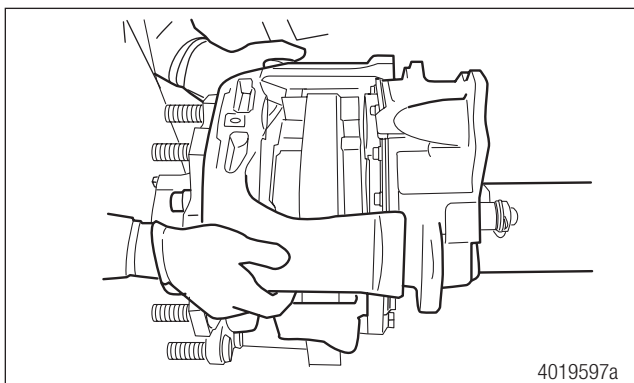

Figure 13
- Lift and place the caliper assembly over the rotor. Align the caliper carrier bolt holes with the torque plate and install the caliper mounting bolts. Figure 13.